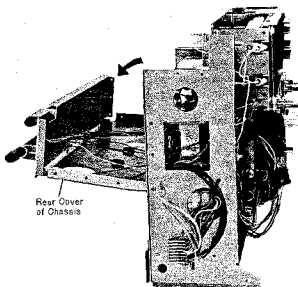

Fig. 18
3. Open rear cover in the direction of arrow, as shown in fig. 18.